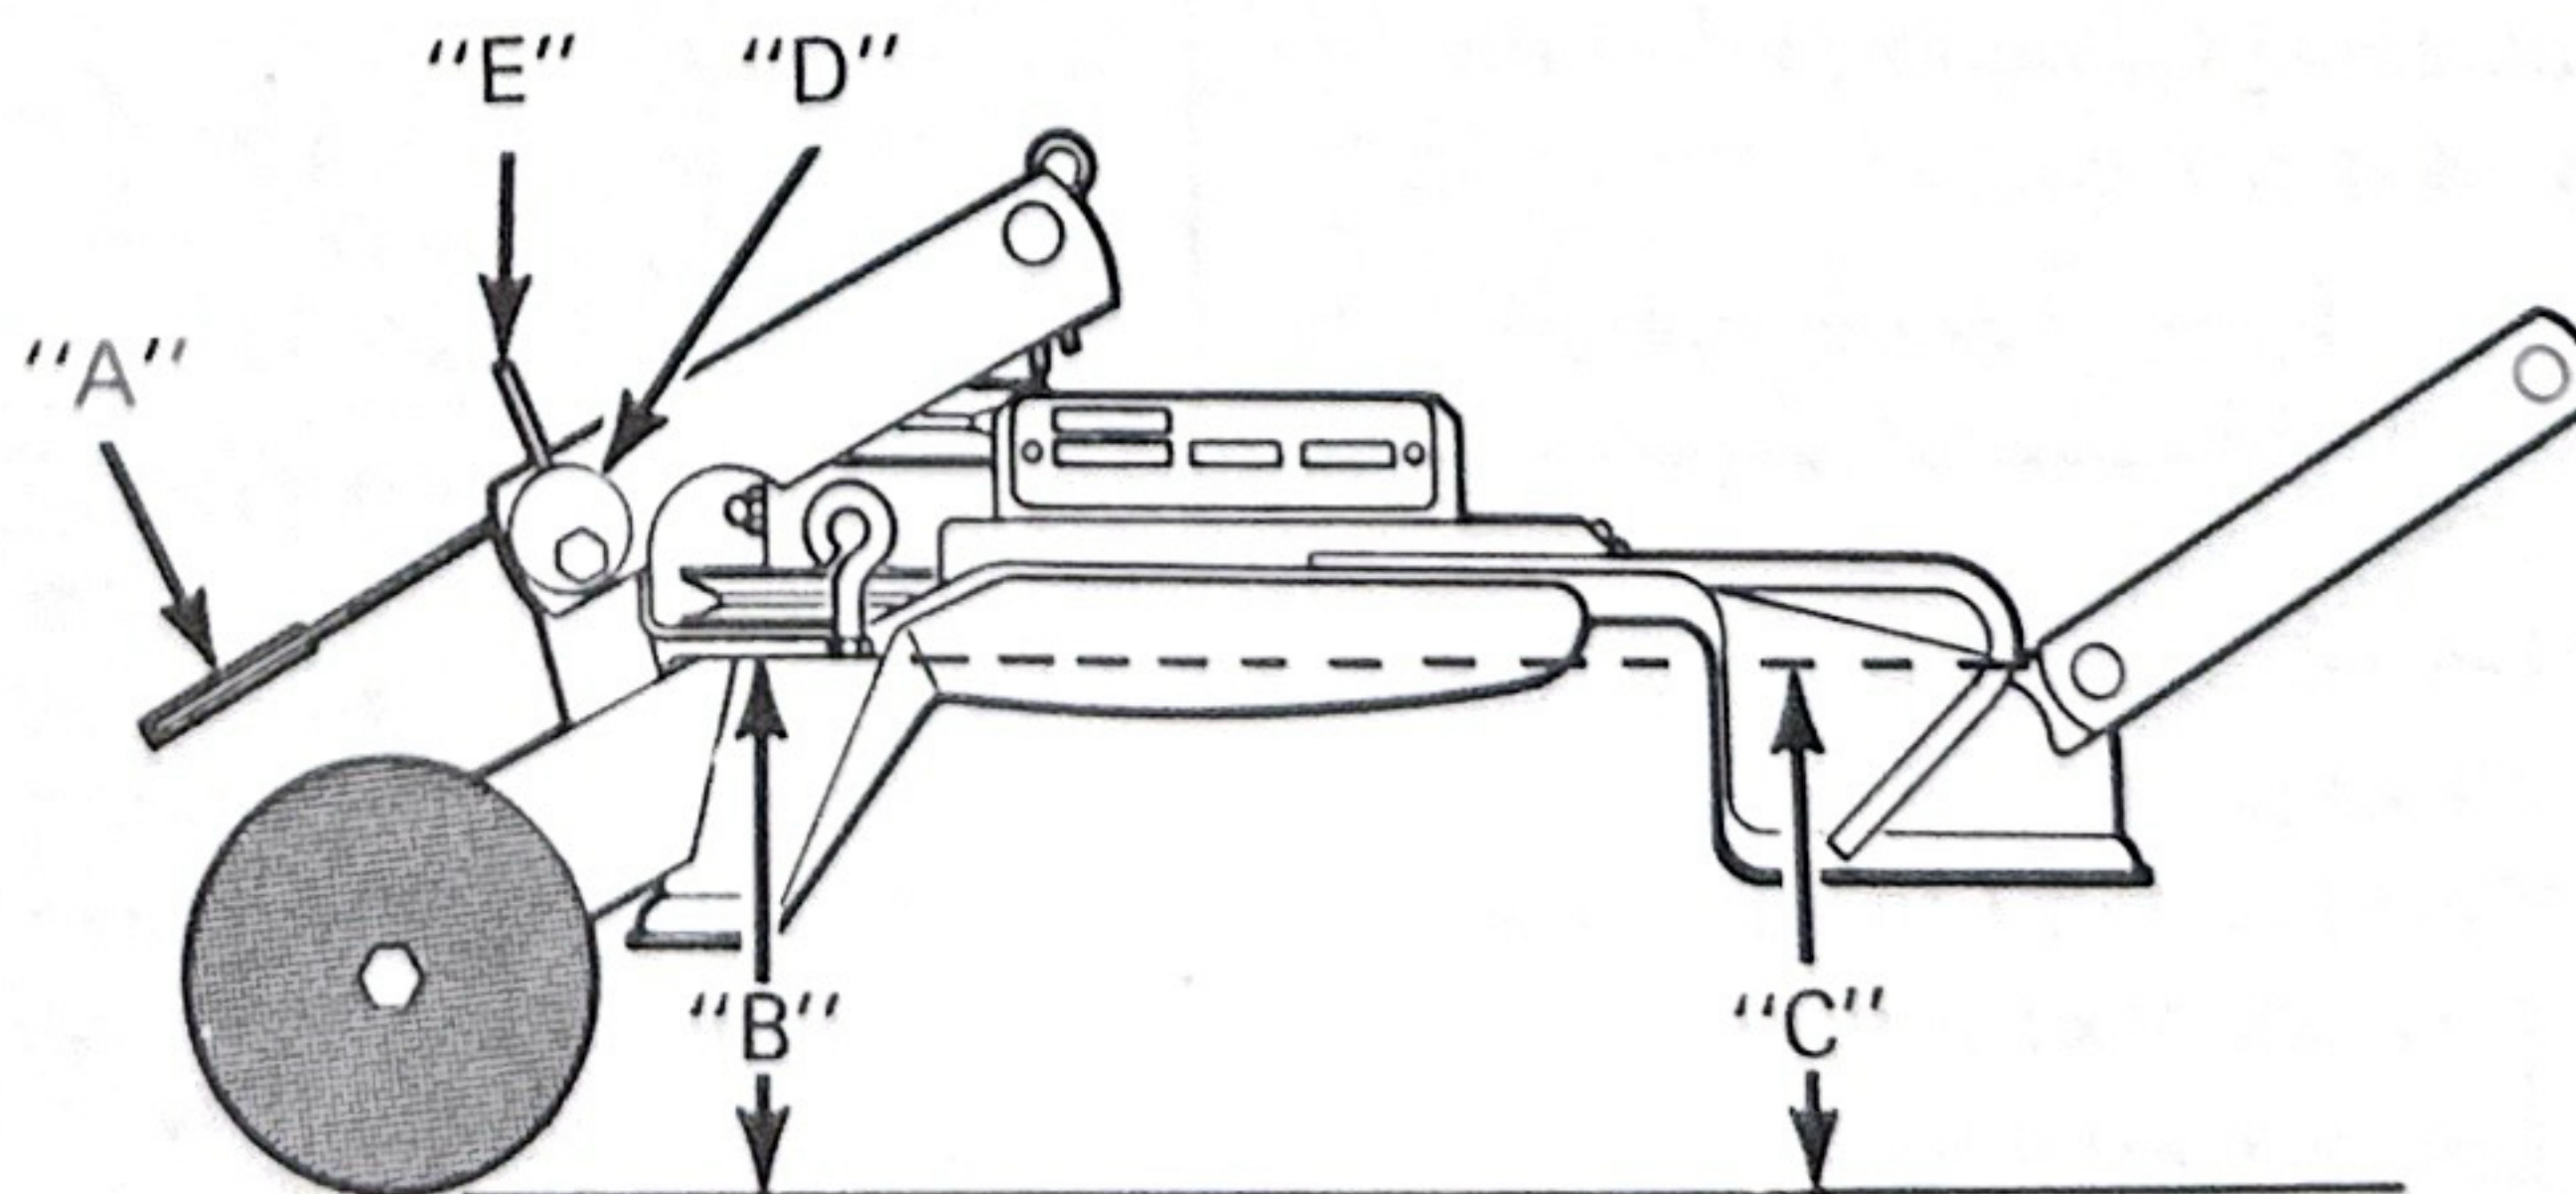
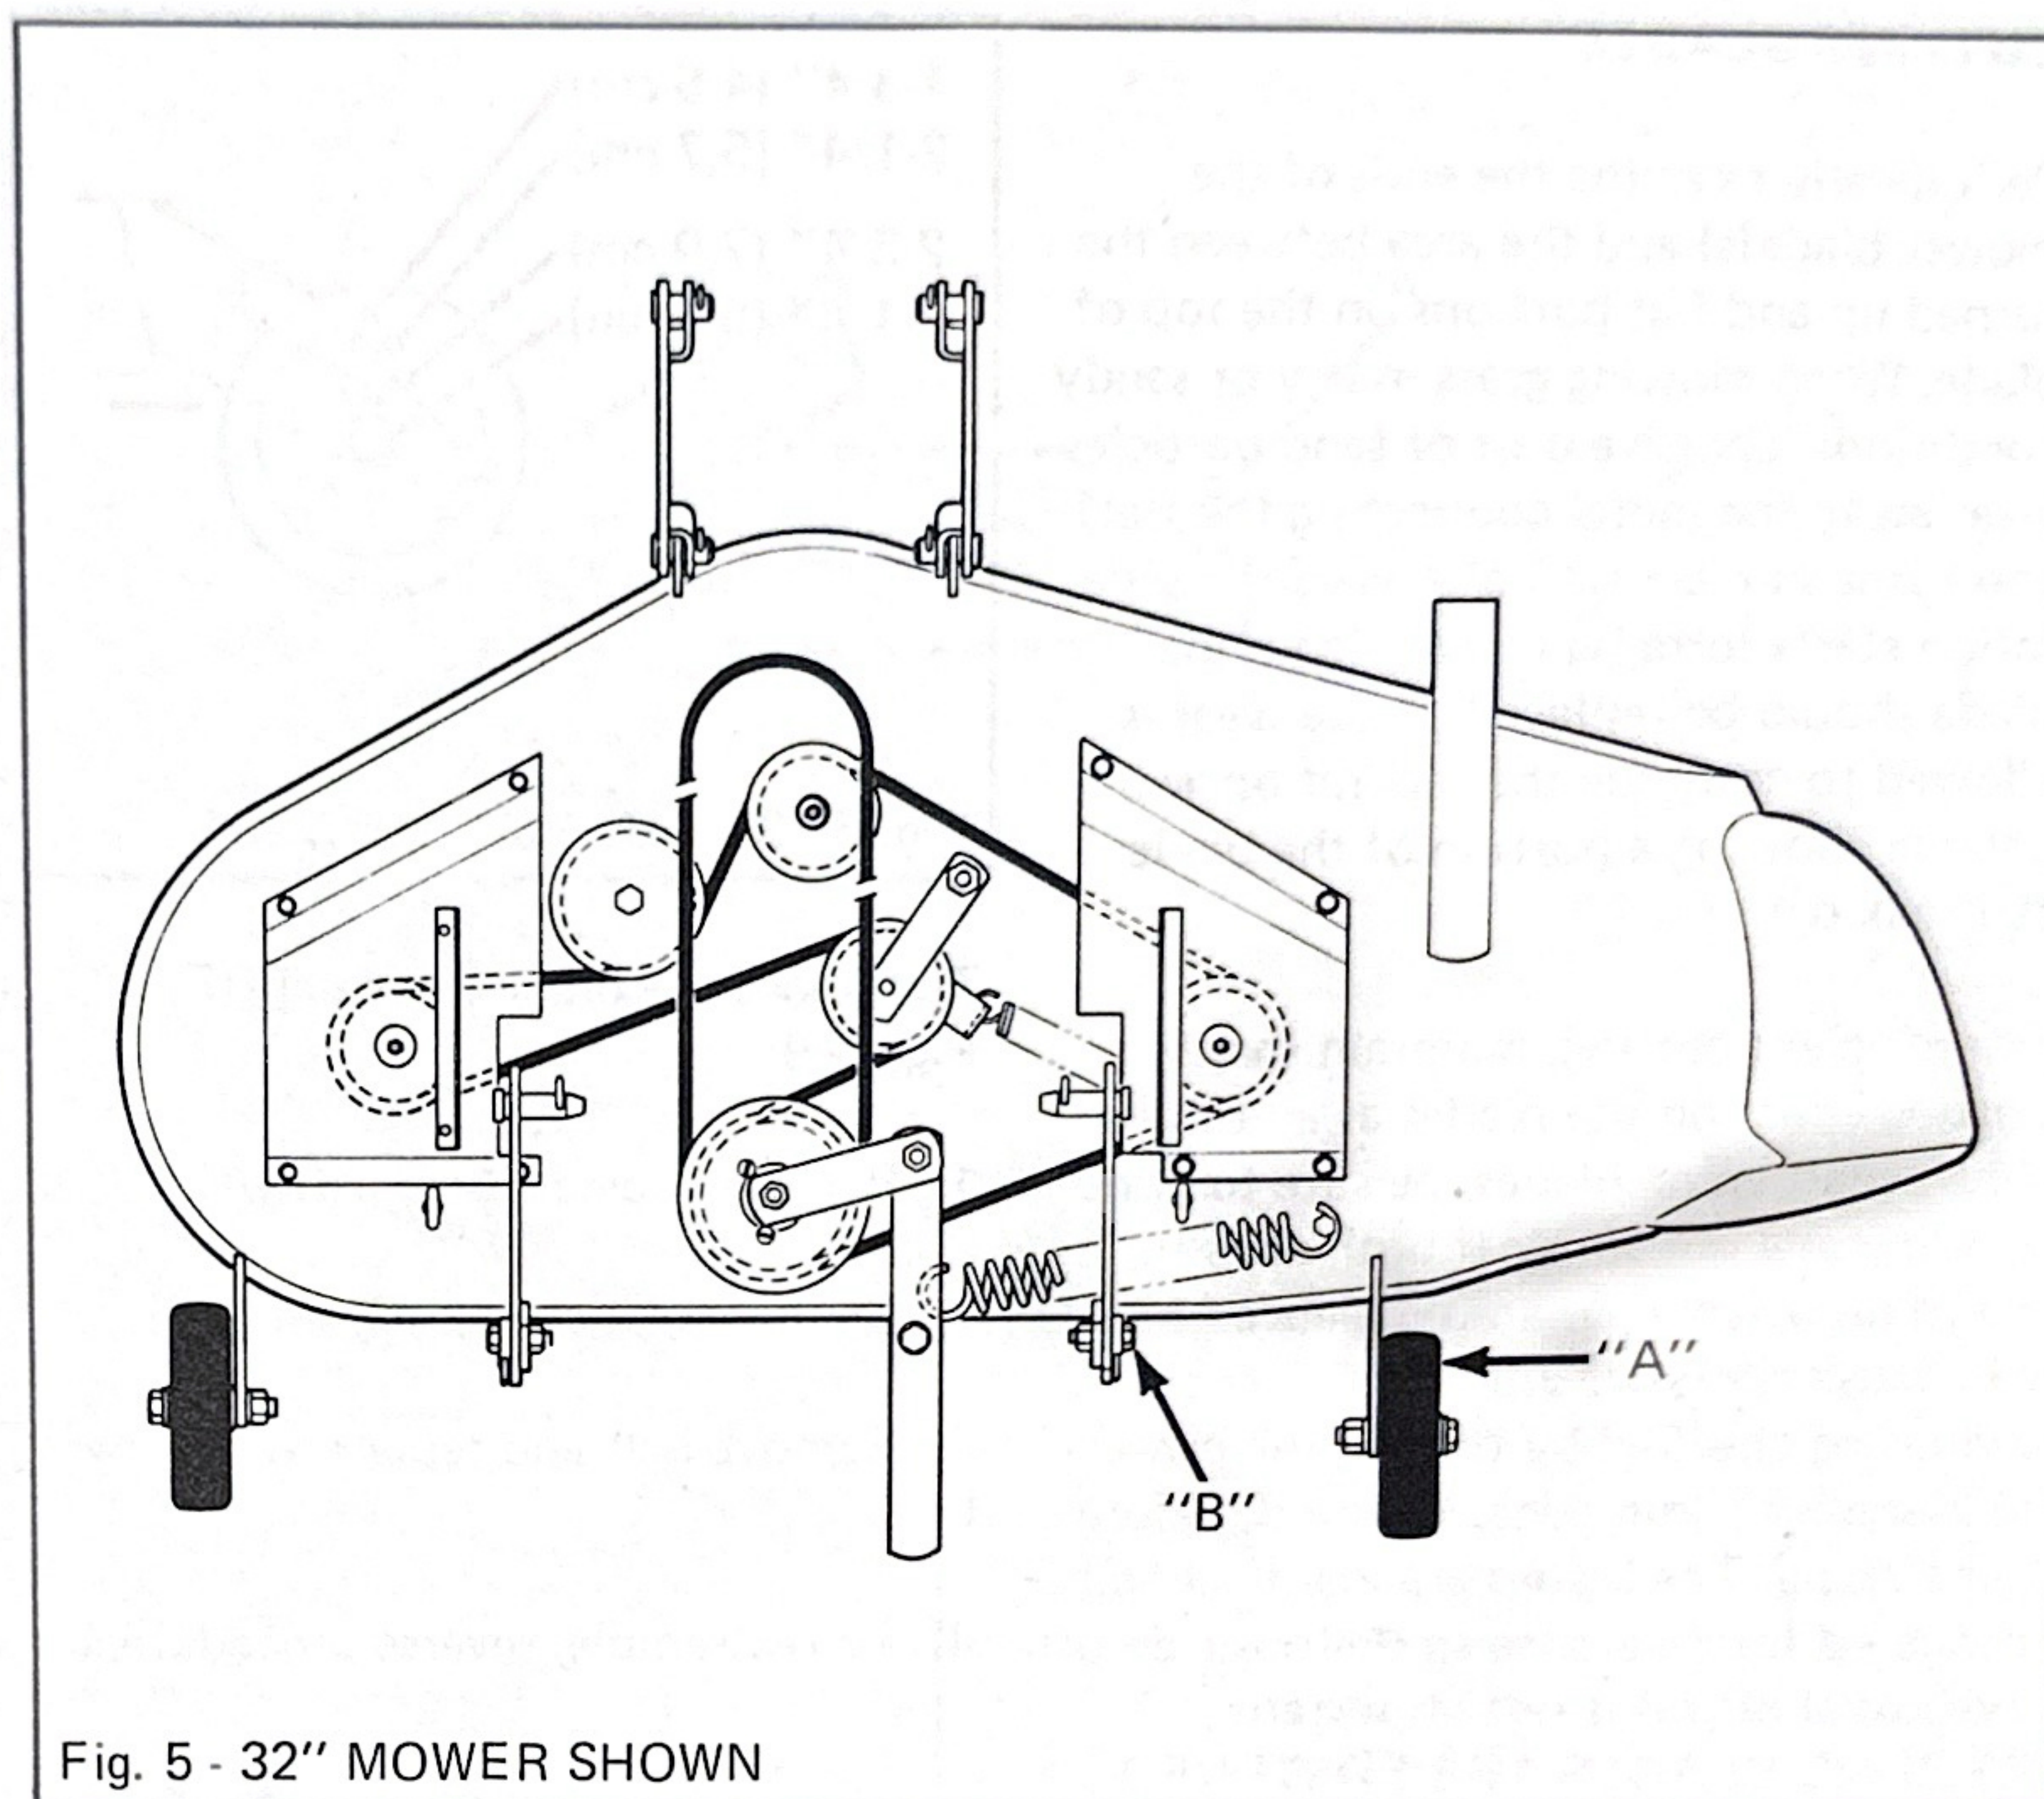

Fig. 4 - 32" MOWER SHOWN
Fig. 5 - 32" MOWER SHOWN
6. Grasp mower drive pulley handle, (A) Figure 4. Pull spring loaded pulley in a clockwise direction with the right hand and slip belt onto the tractor PTO pulley with the left hand.
1. Be certain both gauge wheels, (A) Figure 5, are in the same cutting height position. See Figure 6 or 7.
3. Measure height, (B) and (C) Figure 4, along top surface of mower base, front and rear. If front of deck is lower than rear or more than 1/16 inch (1.6 mm) higher, adjustment is required. Go on to step 4. Measure both sides of mower deck as it is possible that only one side may need adjustment.
4. Loosen hex cap screw, (B) Figure 5, securing cam, (D) Figure 4 (one on each side of mower deck).
5. If front of deck is low, tap roll pin (E) forward. If front of deck is high, tap roll pin backwards. Check adjustments.